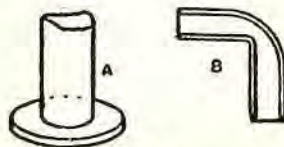

Fig. 16
The flange and pipe (A) (Fig. 16) are put in a clear fire in the forge. Then as it gets hot the spelter, with borax, is sprinkled round the joint, which melts and finds its way into the space between the pipe and the flange. If the reader has a gas or gasoline blow-pipe, it will make the work easier, as the heat can be directed where required from above. When cool, the superfluous brass is filed off. In many cases it is impossible to keep the two pieces of metal in the correct places in the forge; therefore a pin or rivet must be put in, so that they cannot shift.